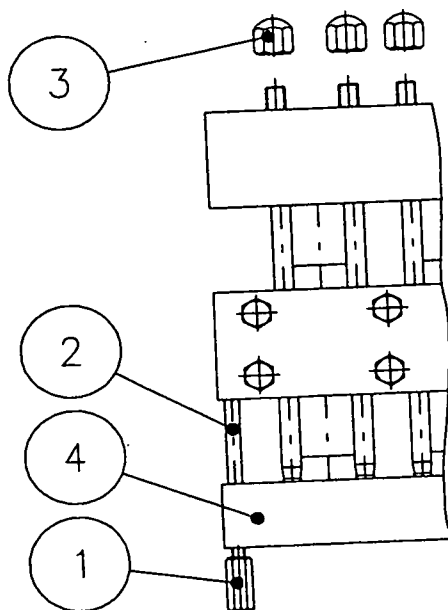
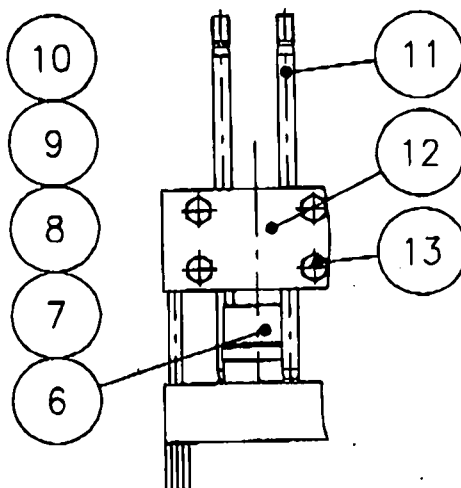

Figure 1
Figure 3
5. By stud setter loosen and remove one of the front studs Pos.11 fig.3 at each of the suction side valves. A stud setter is available in the toolbox.
IMPORTANT!! If part assembly drawing for VALVE HOUSING, Section 13.- indicates a fixing torque for box nuts Pos.3 fig.1 and Pos.13 fig.3, this ***MUST*** be met.